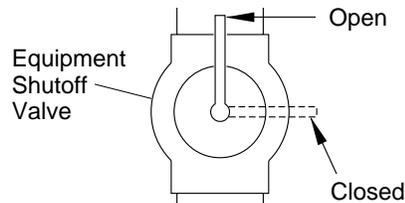

Figure 19 - Equipment Shutoff Valve
1. Close equipment shutoff valve (see Figure 19).
3. Check all joints from gas meter to equipment shutoff valve (see Figure 19). Apply mixture of liquid soap and water to gas joints. Bubbles forming show a leak.
1. Open equipment shutoff valve (see Figure 19).